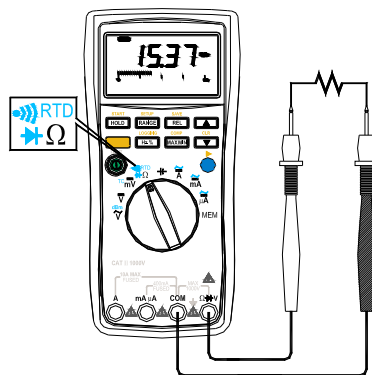

Figure3-6.Resistance Measurement
**Measuring Resistance (See Figure3-6)**